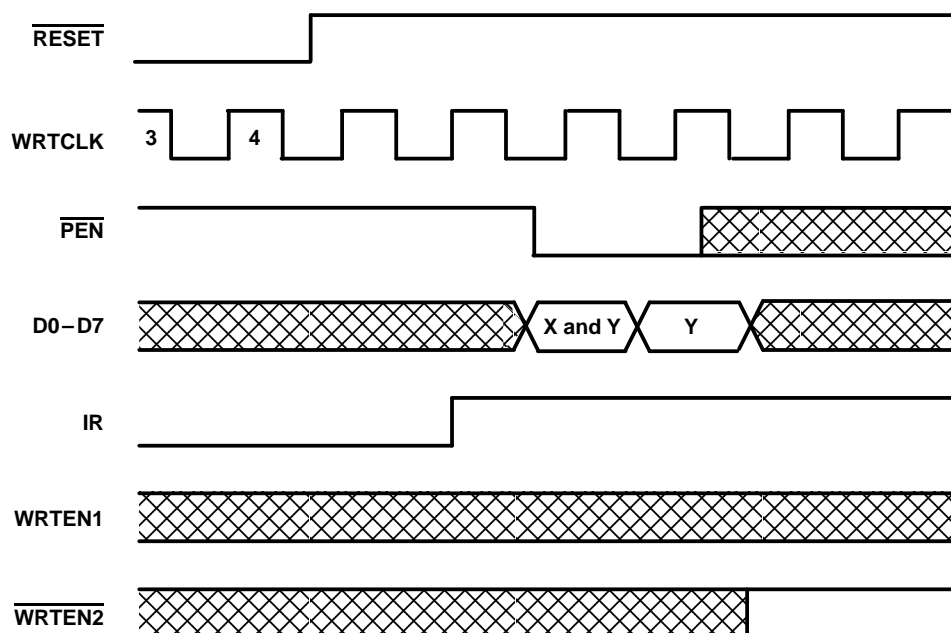

Figure 4. Programming X and Y Separately
Program enable (\overline{PEN}) should be held high throughout the reset cycle. \overline{PEN} can be brought low only when IR is high and WRTCLK is low. On the following low-to-high transition of WRTCLK, the binary value on D0–D7 is stored as the almost-empty offset value (X) and the almost-full offset value (Y). Holding \overline{PEN} low for another low-to-high transition of WRTCLK reprograms Y to the binary value on D0–D7 at the time of the second WRTCLK low-to-high transition. When the offsets are being programmed, writes to the FIFO memory are disabled regardless of the state of the write enables (WRTEN1, WRTEN2). A maximum value of 255 can be programmed for either X or Y (see Figure 4). To use the default values of $X = Y = 64$, \overline{PEN} must be held high.